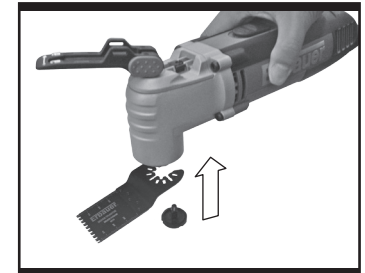

Fig. 2
- Insert the accessory onto the Universal Fit Accessory Interface, then press down the Flange with finger to keep blade temporarily secure (See Fig. 2)